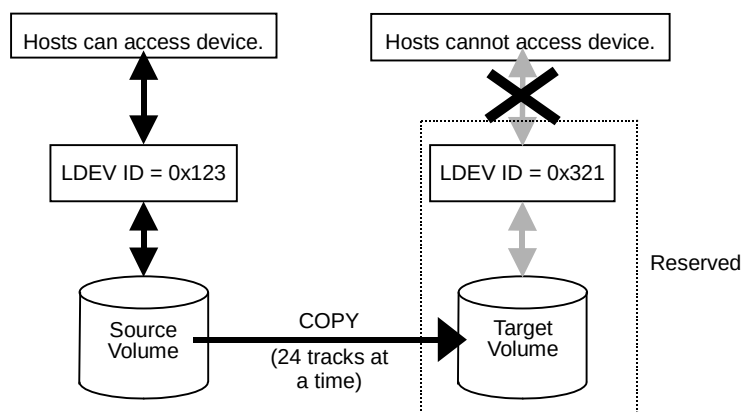

Figure 3.7 Data Flow during a Volume Migration Operation
1. Copy the data on the source volume to the target volume (see Figure 3.7).